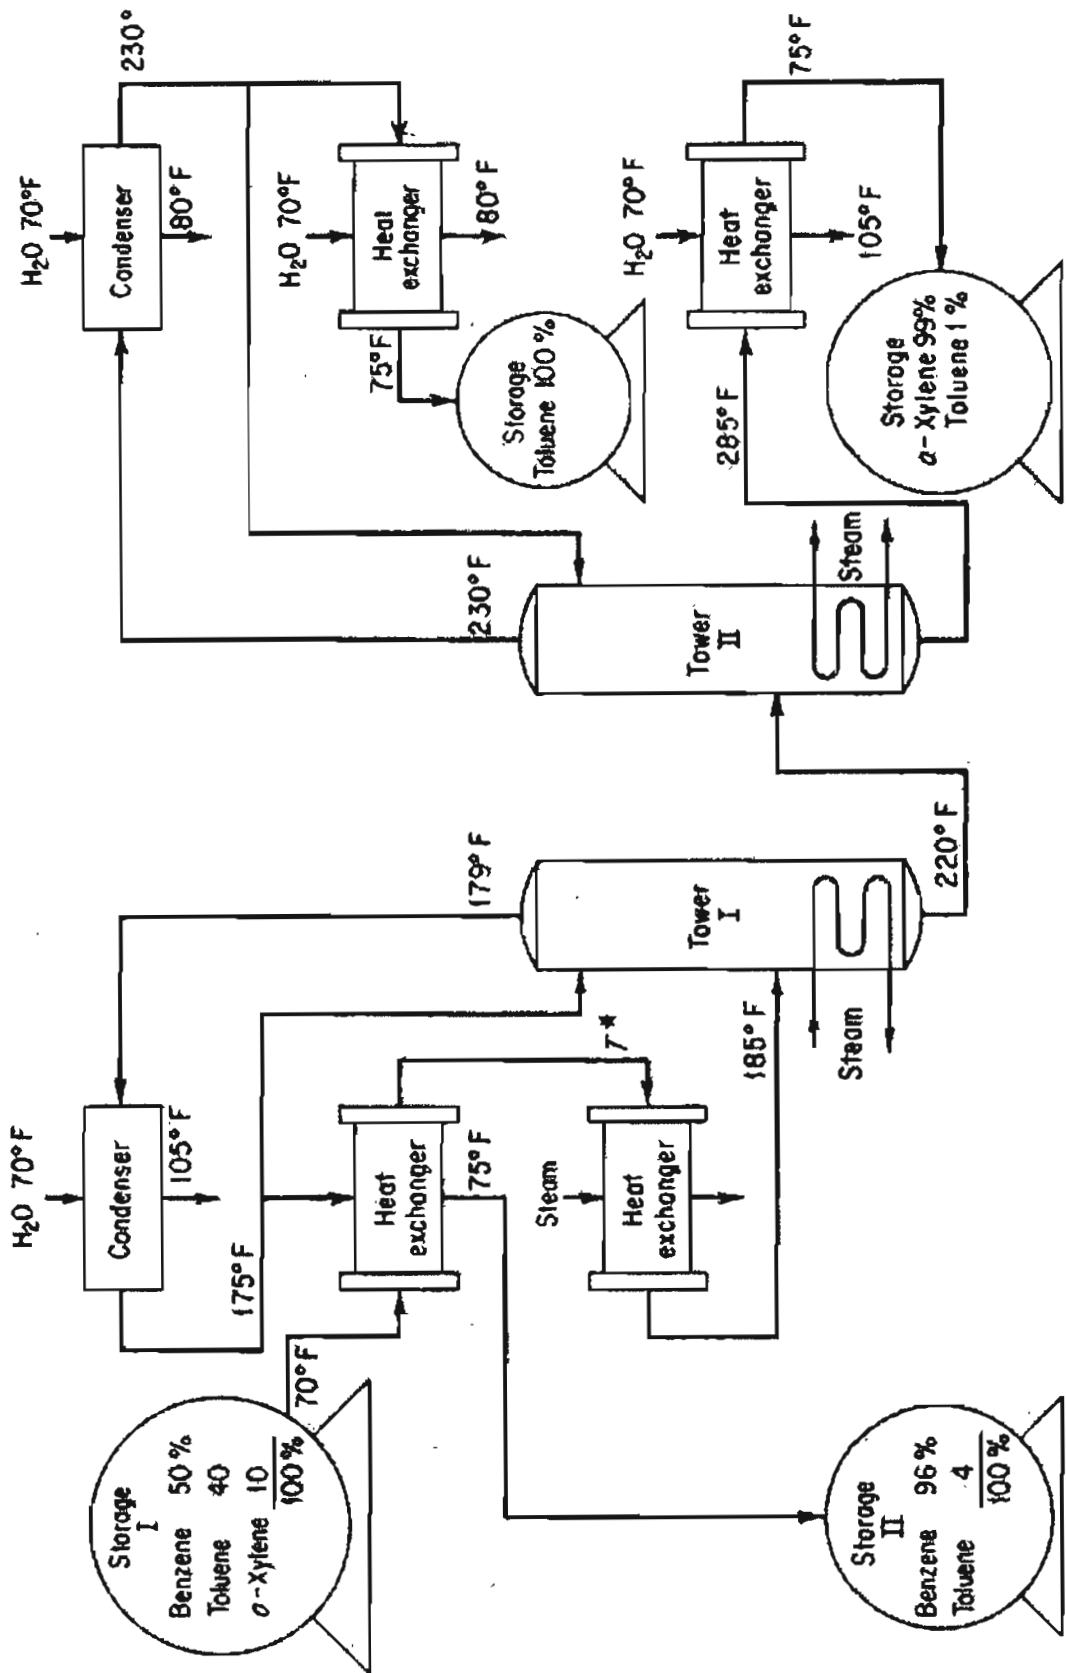

Figure P31.9
- 31.9** One hundred thousand pounds of a mixture of 50% benzene, 40% toluene, and 10% *o*-xylene is separated every day in a distillation-fractionation plant as shown on the flowsheet for Figure P31.9.